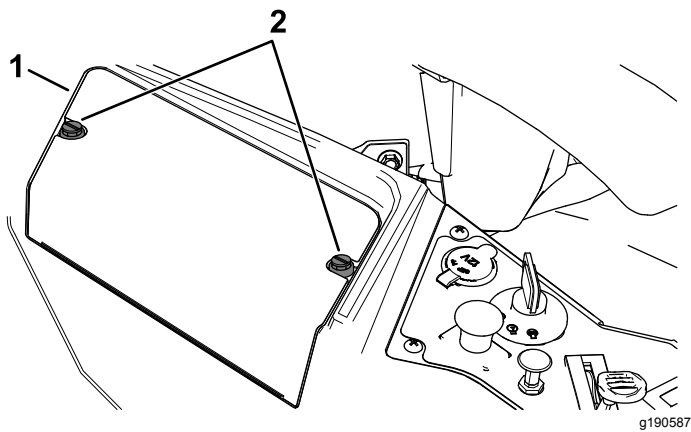

Figure 53
3. Loosen the 2 fasteners on the battery cover counterclockwise 1/4 turn, and remove the battery cover (Figure 53).
6. Install the battery cover by pushing down and tightening the 2 fasteners clockwise (Figure 53).